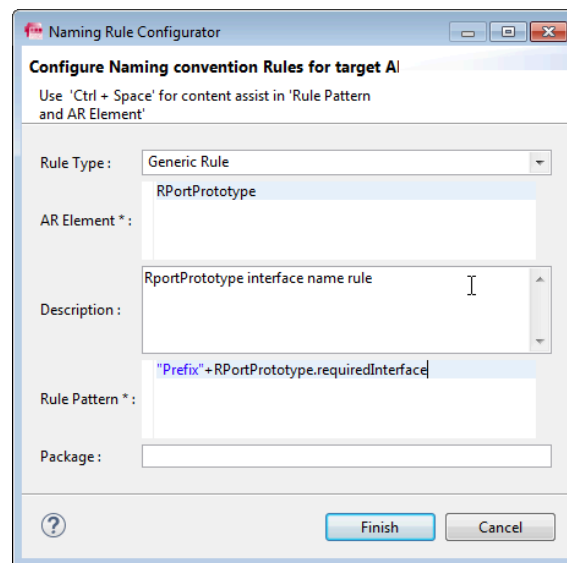

Figure 5.5. Configure a Naming Rule
1. At the top of the Rule Configurator (see Figure 5.5), you'll see there is a link for **Configure Project Specific Settings**.